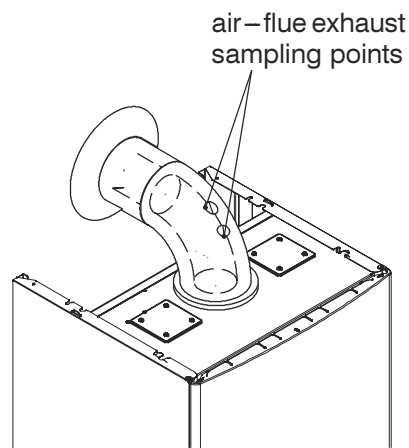

Fig. 11.3
- 11 Fit the probe of the flue analyser in the flue exhaust sampling point located on the exhaust pipes of the boiler (Fig. 11.3)